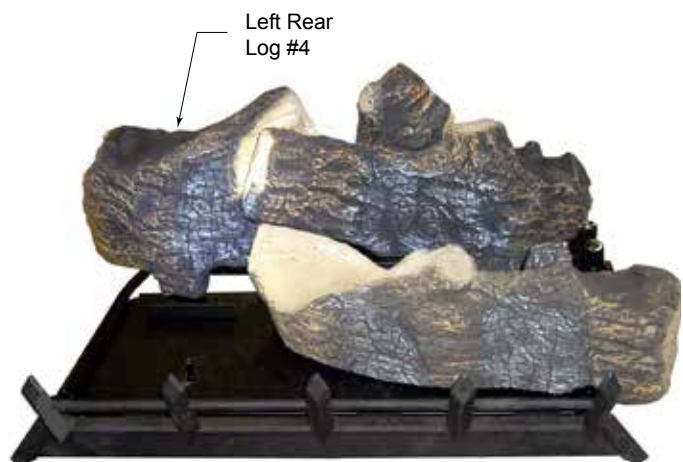

Figure 23 - Place Left Rear Log #4
4. Place left rear log (#4) on pin located on rear support bracket on left side. *Figure 23*